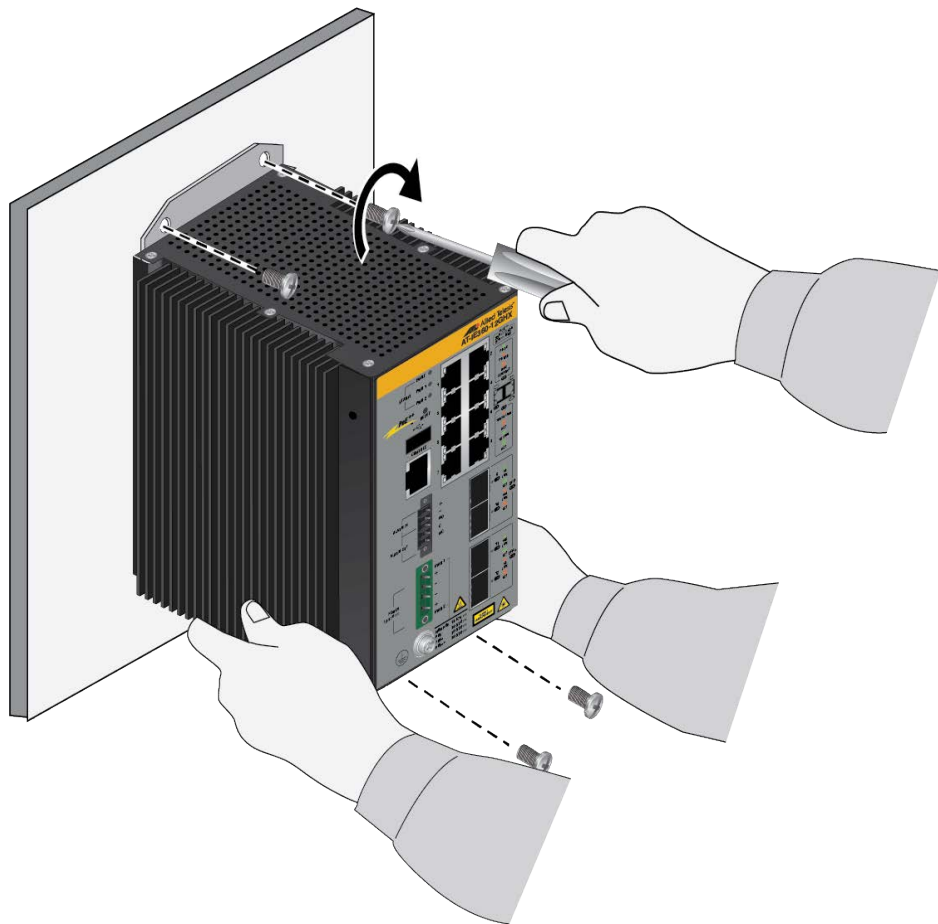

Figure 30. Installing the Switch on a Concrete Wall
10. Have another person hold the switch at the selected wall location while you secure it with four screws (not provided). Refer to the anchor datasheet from the manufacturer for the recommended torque value for the screws. Refer to Figure 30.